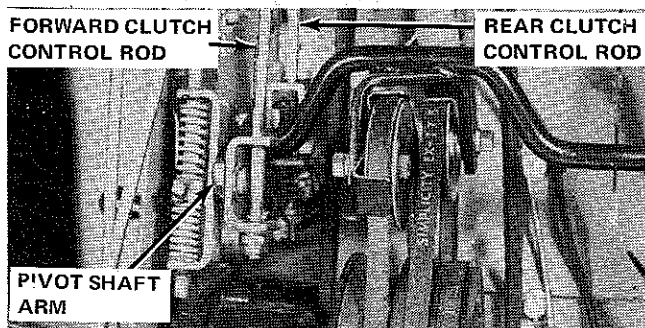

Figure 5-5. Direction Control Lever Forward, Clutch Pedal Depressed
B. Belt stop contact is broken when either the direction control lever is placed in NEUTRAL or the clutch-brake pedal is depressed. Clutch-brake pedal depression moves the branched clutch control rods forward. The forward motion pivots the pivot-shaft arm in the direction of the relaxed control rod spring (Figure 5-5). The pivot-shaft arm is then in the NEUTRAL position and there is no belt stop contact.